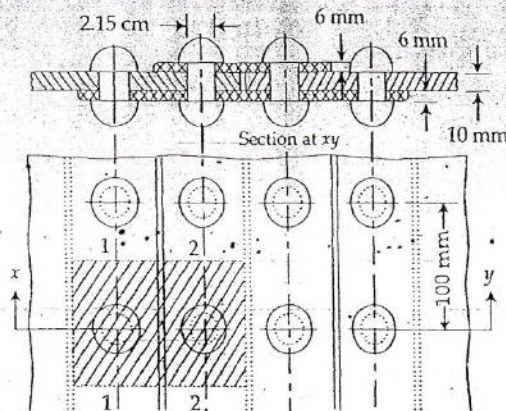

Fig. 1
4. (a) Two plates 6 mm thick are joined by 14 mm diameter rivets in a triple staggered riveted lap joint as shown in fig 1. In what way will the joint fail if allowable tensile stress for plate = 150 MPa ; allowable shear stresses for rivets = 90 MPa and allowable bearing stress for rivets = 270 MPa. Also find the efficiency of the joint. 20